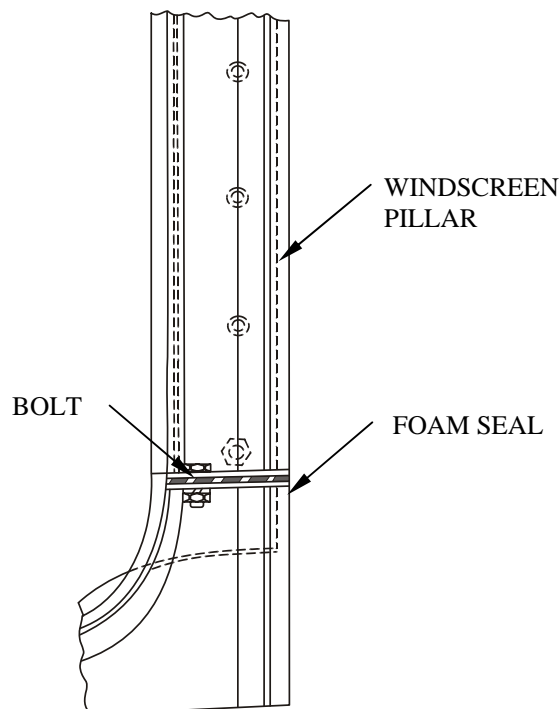

Figure 14 Windscreen Pillar Bolt Location
- Remove the bolts, nuts and washers mounted externally on the right and left-hand windscreen pillars (see Figure 14).